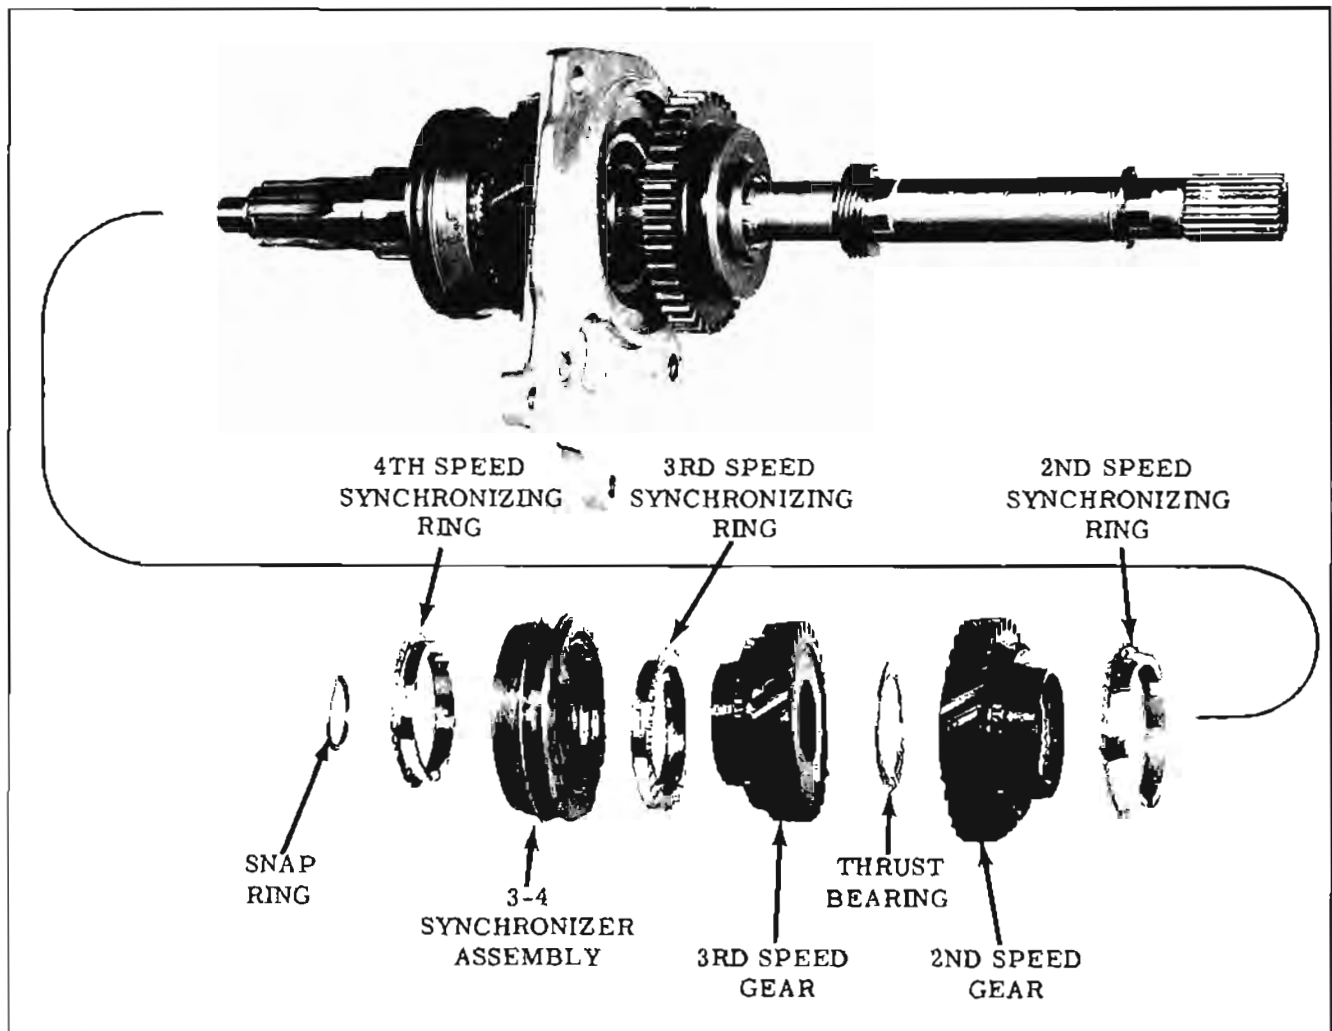

Fig. 11-235 Mainshaft Disassembly
4. Remove the main shaft front snap ring. (Fig. 11-235)
5. Slide the 3-4 synchronizer assembly, third speed gear and synchronizing ring, second and third speed gear Torrington thrust bearings, second speed gear, and second speed synchronizing ring from front of main shaft. (Fig. 11-235)